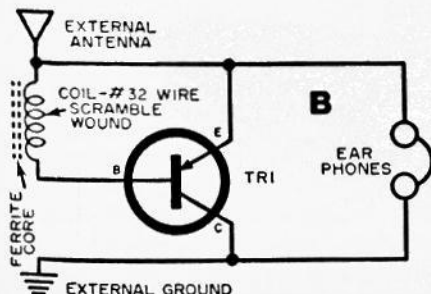

Fig 2. Circuit for a general-purpose alarm. Many applications are possible, depending on the sensor used.
**Reader's Circuit.** With literally dozens of potential practical applications, the general-purpose control/alarm circuit in Fig. 2 was submitted by high school student, Edwin Goei (111 Tophill, San Antonio, TX 78209). Depending on the type of sensor switch used, the circuit may serve as a water-level, freezer-failure, fire, intrusion, theft, or power-failure alarm. It requires no standby power, assuring long battery life and, once activated, emits an attention-getting "beeping" sound. Easily assembled in one or two evenings and requiring no special construction skills, the design uses standard components.
Finally, for burglar, theft, intrusion or similar applications requiring a continuously sounding alarm once tripped (until deliberately reset, of course), transistor  $Q1$  should be replaced with a low-voltage sensitive-gate SCR, as shown in Fig. 3C. Depending on the installation, the sensor switch might be a normally open magnetic door switch, a pressure sensitive mat switch, a "Microswitch," or some similar device. The value of the series gate resistor,  $R_s$ , will depend on characteristics of the SCR used in the circuit. In operation, the alarm will sound continuously once the sensor switch is closed, even momentarily, until the system is "reset" by opening and closing the main power switch ( $S1$ , Fig. 2).